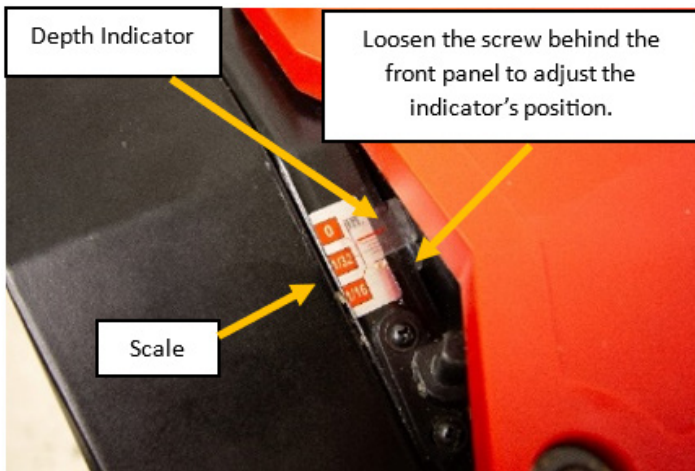

Figure 40: Adjusting the planing scale to zero.
4 - Loosen (do not remove) (4) motor mount screws see figure 40 to release tension on drive belt, then roll belt off pulleys and install new belt.
7. Assess belt tension by pressing the belt's center with moderate pressure. Correct tension is achieved when there is approximately 1/4" deflection (as shown in Figure 40).
3- Loosen the Phillips head screw (as shown in Figure 40), adjust the scale pointer to zero, then tighten the screw.